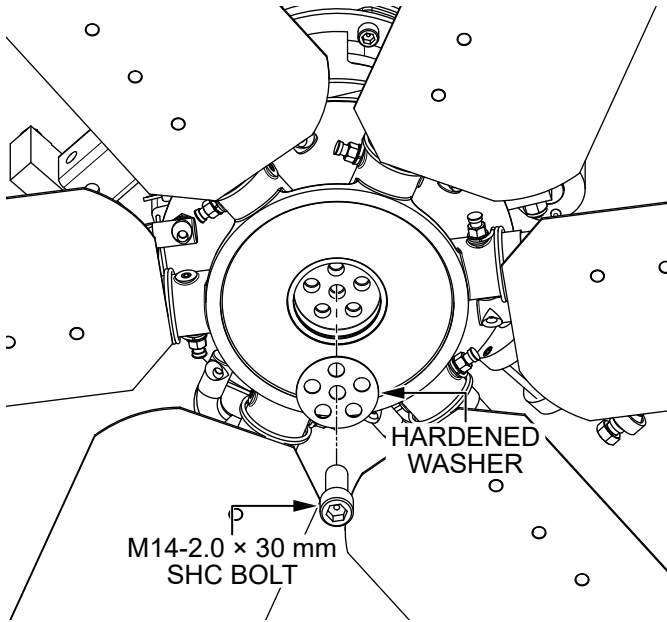

Figure 61. Install New Center Bolt And Washer
7. Install the new **M14-2.0 × 30 mm SHC bolt** in the center position along with a new hardened washer as shown in Figure 61. Torque the center bolt to 40 lbf·ft (54.2 N·m).